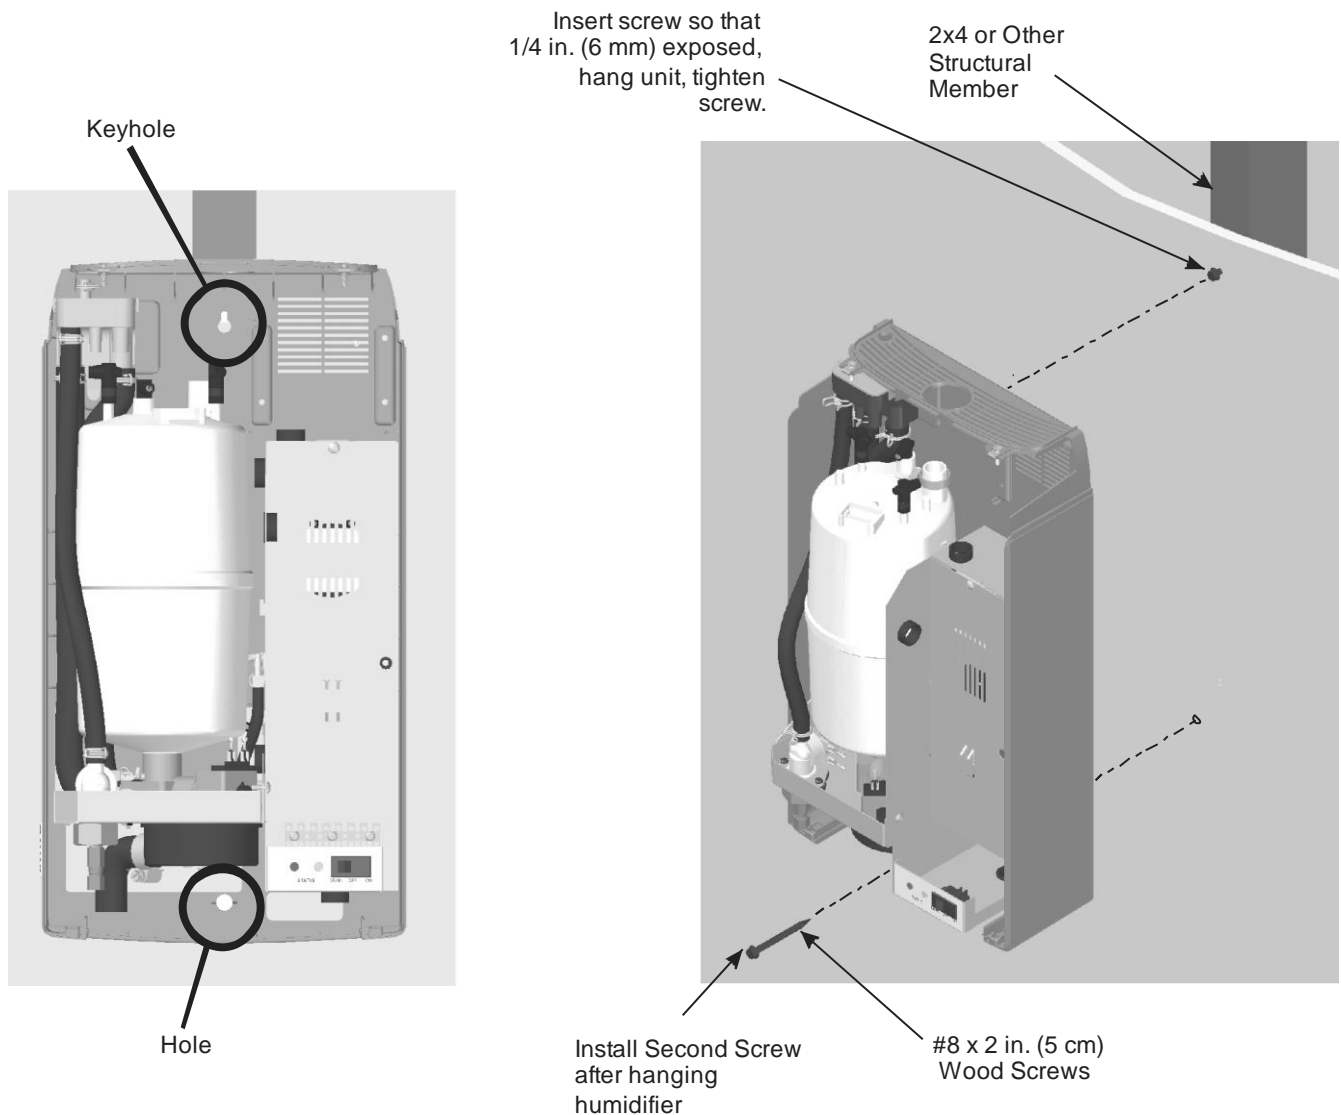

Figure 5: Mounting With Keyholes
- 4 Make sure the unit is level and then insert and tighten the second screw through the bottom hole. Tighten the top screw. See Figure 5.